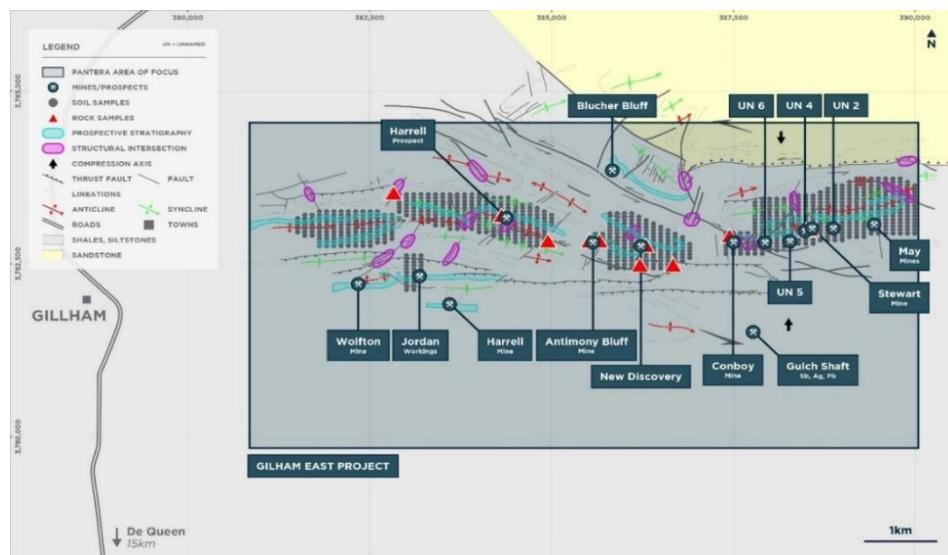

Figure 1 Rock and Soil sampling locations - East Gilham Project
- Systematic sampling and mapping of priority target corridors, including a 5km-long structural zone hosting the historic Davis silver-base metal mine have now been sampled and mapped (Figures 1 & 2).
Pantera Minerals Limited (“Pantera” or the “Company”) (ASX: PFE) (OTCQB: PTMLF) is pleased to announce the completion of the first modern rock and soil sampling program at the Gillham Silver-Antimony Project, covering ~5,000 acres in southwest Arkansas (Figure 1 & 2).